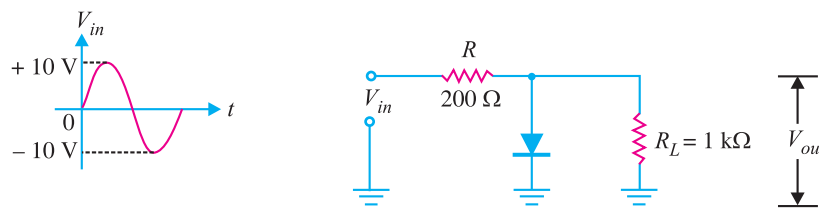

Fig. 18.31
**Example 18.10.** The positive shunt clipper shown in Fig. 18.31 has the input waveform as indicated. Determine the value of  $V_{out}$  for each of the input alternations.
**Example 18.11.** In Fig. 18.31, what is the purpose of using the series resistance  $R$  ?